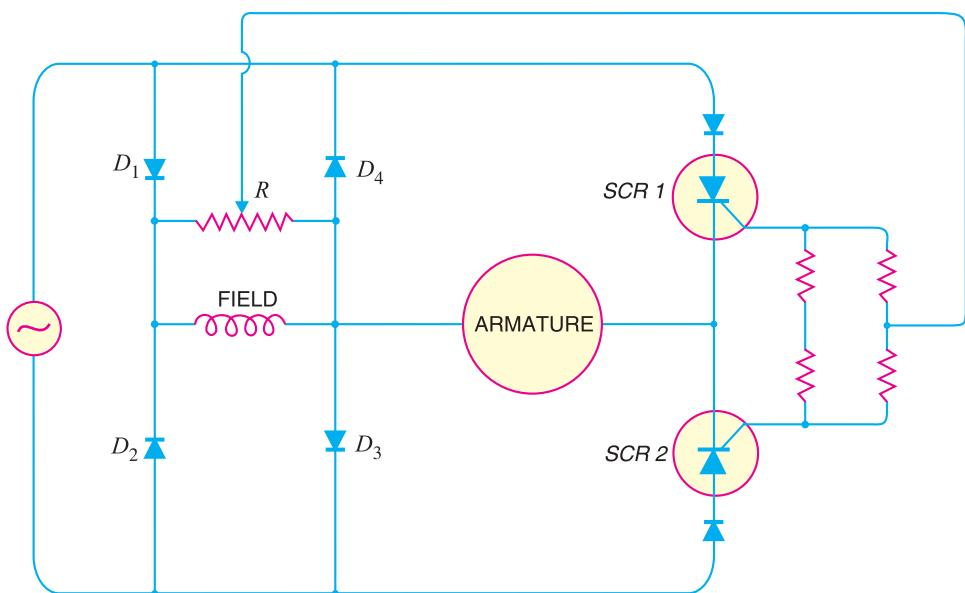

Fig. 20.21
**(iii) SCRs for speed control of d.c. shunt motor.** The conventional method of speed control of d.c. shunt motor is to change the field excitation. But change in field excitation changes the motor torque also. This drawback is overcome in SCR control as shown in Fig. 20.21. Diodes  $D_1, D_2, D_3$  and  $D_4$  form the bridge. This bridge circuit converts a.c. into d.c. and supplies it to the field winding of the motor. During the positive half-cycle of a.c. supply, SCR1 conducts because it gets gate current from bridge circuit as well as its anode is positive w.r.t. cathode. The armature winding of the motor gets current. The angle of conduction can be changed by varying the gate